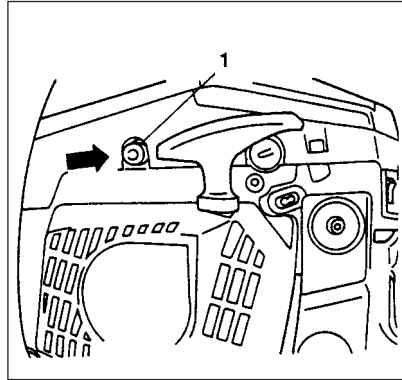

Fig. 2-2B
1. Set ignition switch (1) to ON position.
* Press the decompression valve (1) (if so equipped). This valve will return when engine started). (Fig. 2-2B)